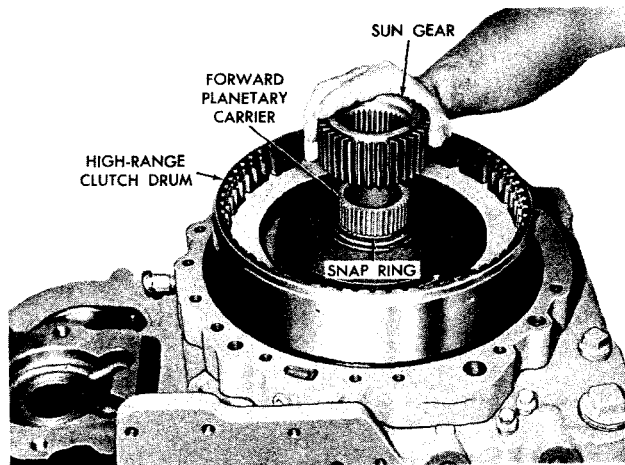

Fig. 5-37. Removing low-range planetary sun gear (-3 underdrive model)
(3) Remove the low-range planetary sun gear (fig. 5-37). Remove the snapping from the hub of the forward planetary carrier.